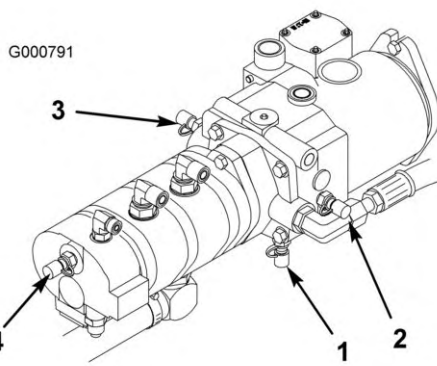

Figure 82
4. Test Port D is located on the bottom of the hydrostatic transmission (Figure 82) and is used to measure the charge pressure of the transmission.
5. Test Port E is used to measure traction forward pressure (Figure 82).
6. Test Port F is used to measure traction reverse pressure (Figure 82).
7. Test Port G is used to measure steering circuit pressure (Figure 82).